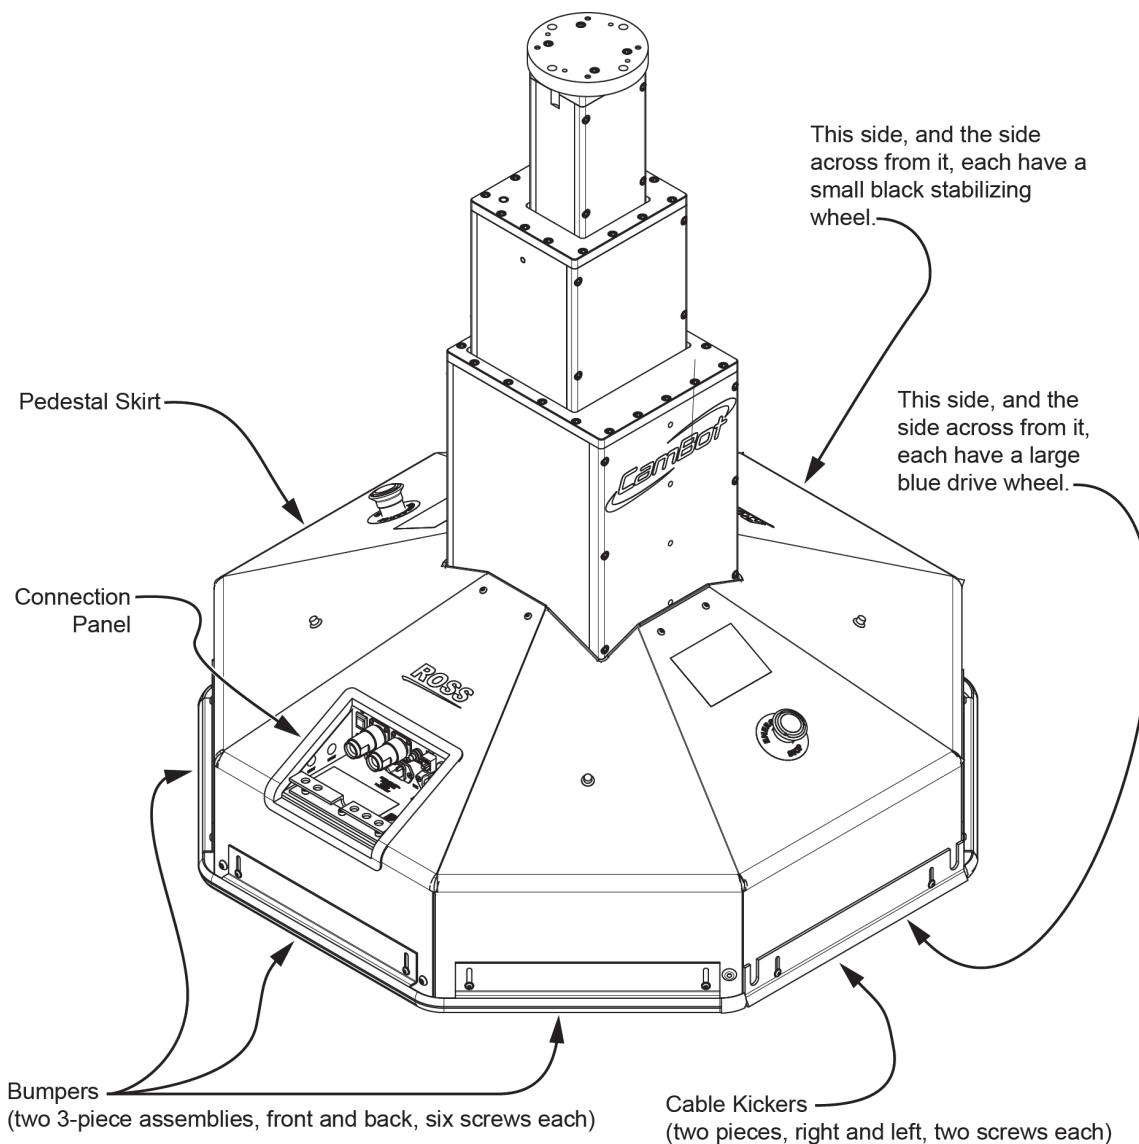
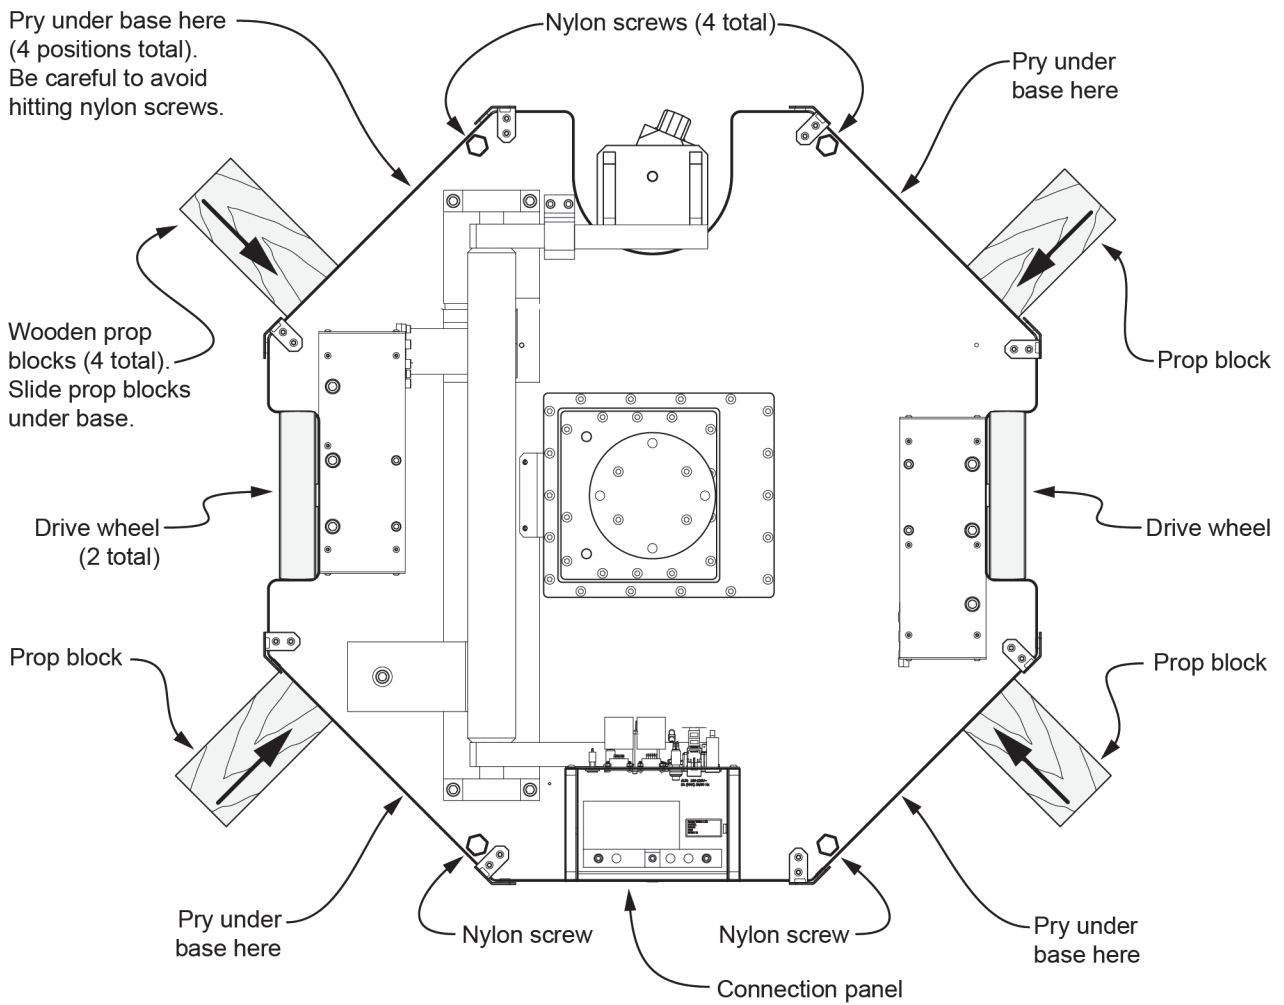

Figure 2 - Raising the Bumpers and Cable Kickers (CamBot 700XY pedestal shown)
Figure 3 - Propping up the Pedestal Base - Simplified Top View of Pedestal (skirt and some other parts omitted for clarity)
1. At the connection panel on the pedestal, disconnect all cables, keeping track of where each must be reconnected later (see **Figure 2**).
2. Note the height of the bumpers and cable kickers (see **Figure 2**).
- a. Use a 3/32" hex key to loosen the screws that fasten the bumpers and cable kickers to the pedestal skirt. Each of the two bumper assemblies has six screws. Each of the two cable kickers has two screws. Loosen the screws just enough to allow the bumpers and cable kickers to move (see **Figure 2**).
- a.** On a side of the base that has no wheels (see **Figure 2**), use a pry bar to lift the base, and then insert a prop block beside the adjacent drive wheel, as shown in **Figure 3**.
IMPORTANT: Be careful to avoid contacting or damaging the nylon screws that extend below the base plate (see **Figure 3**).